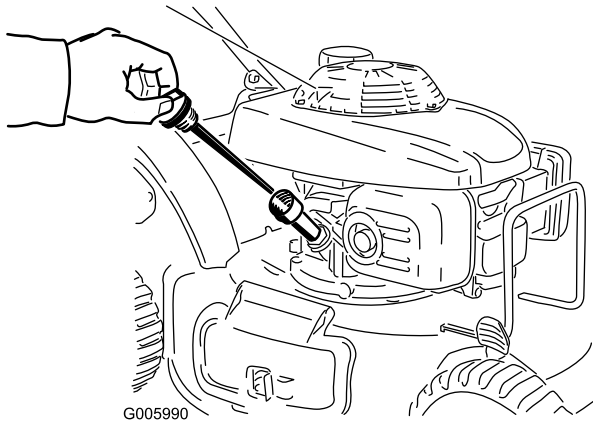

Figure 19
1. Remove the dipstick, wipe it clean, and insert it into the oil filler neck, **but do not screw it in** (Figure 19).
2. Remove the dipstick and check the oil level (Figure 19).
If there is no oil on the dipstick, **slowly** pour oil into the oil fill tube, periodically checking the level with the dipstick, until the dipstick indicates that the engine is full as illustrated in Figure 19. **Do not overfill.** (Max. fill: 20 oz. (0.55 l), type: SAE 30 detergent oil with an API service classification of SH, SJ, SL, or higher.)